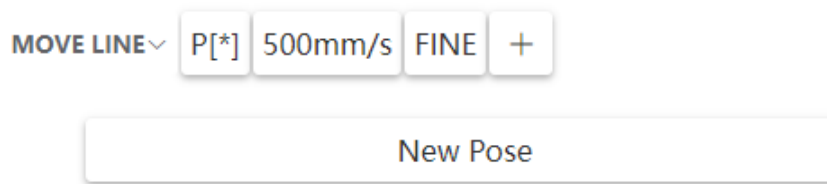
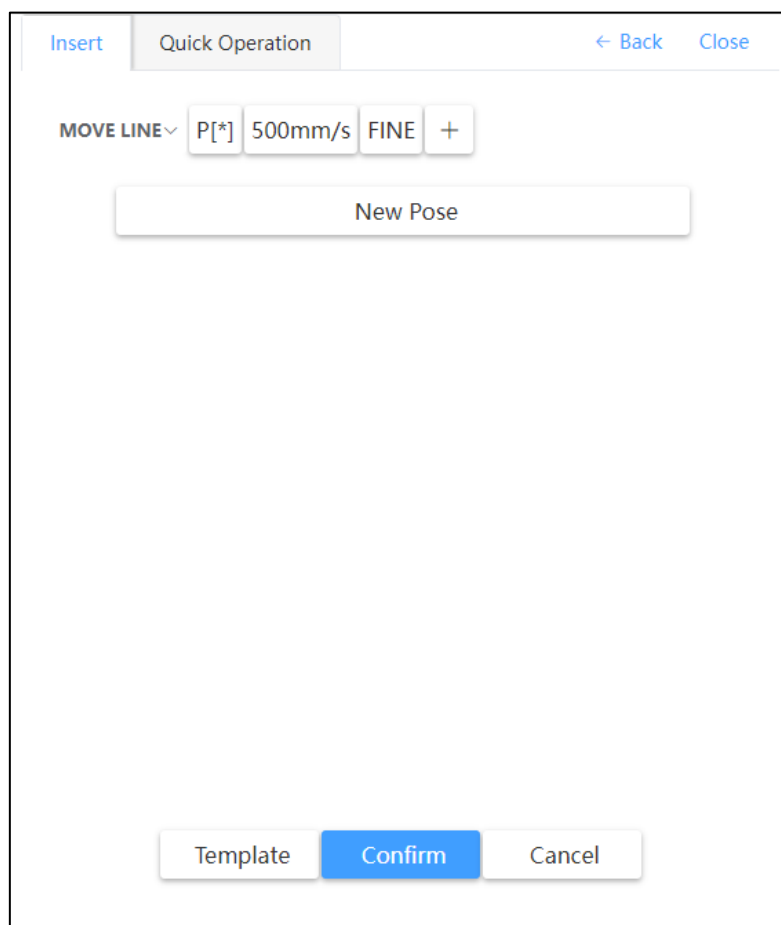

Fig. 4.14 Motion Instruction Editing Window
Fig. 4.15 Example of Continuous Motion Instruction
4. Teach the robot to the desired target position, click on new pose in Fig. 4.14, and "\*" in P [\*] will display specific numbers as shown in Fig. 4.15. Click "Confirm" to complete the insertion of motion instructions (insertion steps are the same for MOVEJ and MOVEC instructions).
Click  on the motion instruction editing interface to switch between motion instructions (MOVJ, MOVEC). In order to edit P, click "P [\*]" in Fig. 4.14 to display the following screen.